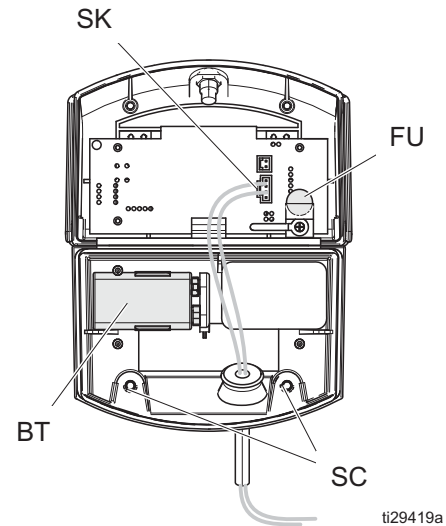

**FIG. 7. Remove DataTrak**
1. Remove DataTrak module (D) from bracket. See FIG. 7.